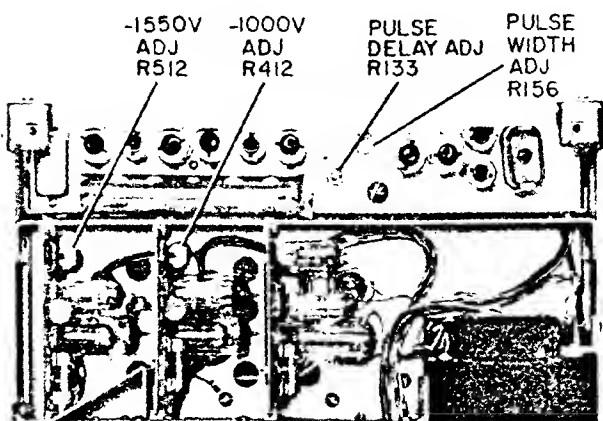

Figure 5-7. Location of Power Supply and Modulator Adjustments
e. Adjust potentiometer R412 (Figure 5-7) for -1000 ± 20 volts. Line voltage regulation ($115 V \pm 10\%$) should hold the -1000 V supply to within ± 5 V; ripple should be less than 10 mV, p-p. The -300 V supply should track the -1000 V supply to -300 ± 10 V. Line voltage regulation ($115 V \pm 10\%$) should hold the -300 V supply to within ± 5 V; ripple should be less than 10 mV, p-p.
g. Adjust potentiometer R512 (Figure 5-7) for -1550 ± 20 V. Line voltage regulation ($115 V \pm 10\%$) should hold the -1550 V supply to within ± 5 V; ripple should be less than 15 mV, p-p.
d. Adjust potentiometer R133 (Figure 5-7) to give a delay of 300 μ s as measured on the calibrated Oscilloscope.
d. Adjust potentiometer R156 (Figure 5-7) so that width of pulse of 10 μ s as measured on the Oscilloscope.